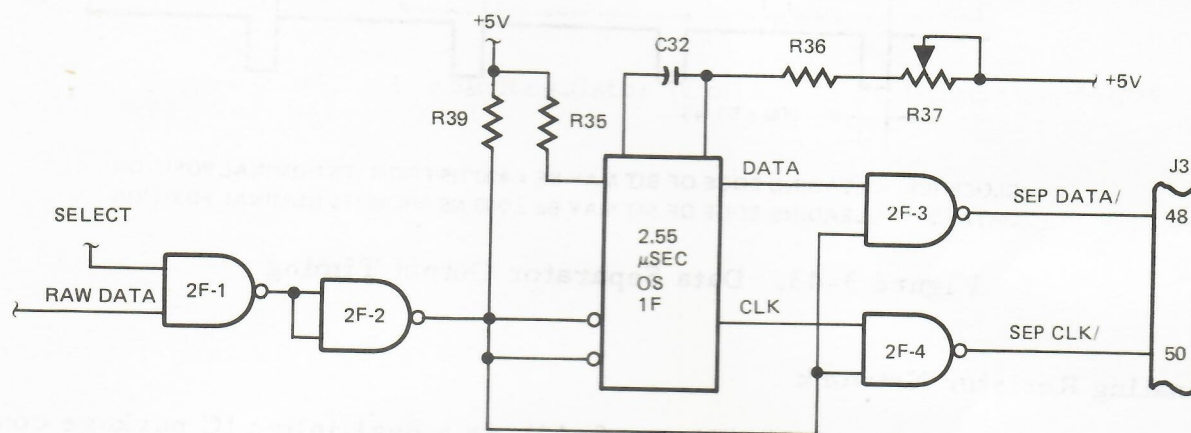

Figure 3-42. Data Separator (Option) Simplified Logic
The Data Separator option is usable only when the disk drive is used for single-density recording. Frequency modulated (FM) encoding is the method and is defined as being a pulse train wherein a clock pulse occurs every 4 microseconds and a data "1" pulse occurs midway between clock pulses; no pulse occurs if the data bit is a "0". The logic is shown in Figure 3-42.